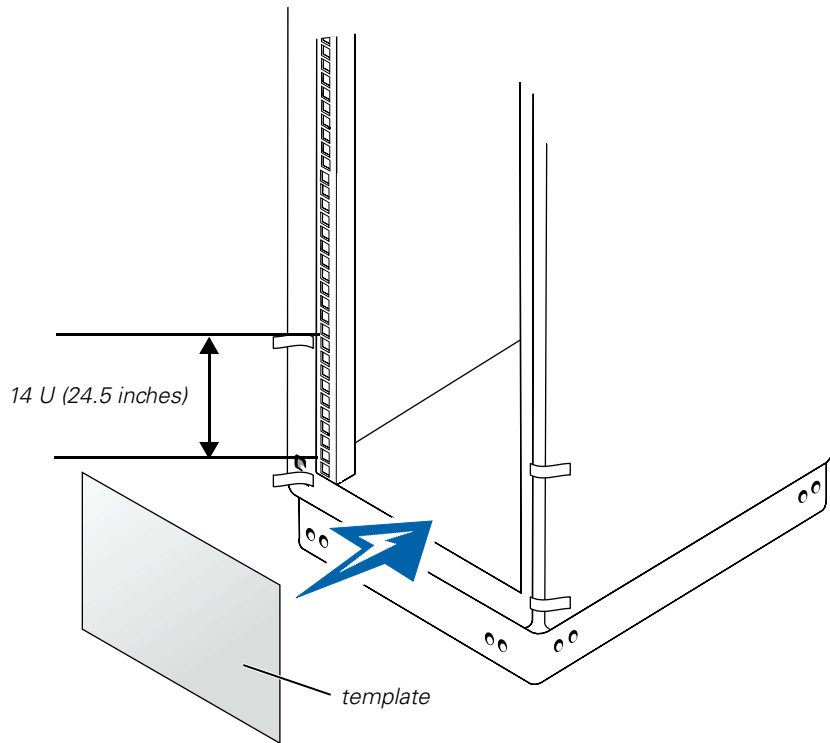

Figure 1-3. Marking the Rack
2. Mark the front vertical rails with a felt-tipped marker or place masking tape where the system's upper and lower edges will be located (see Figure 1-3).